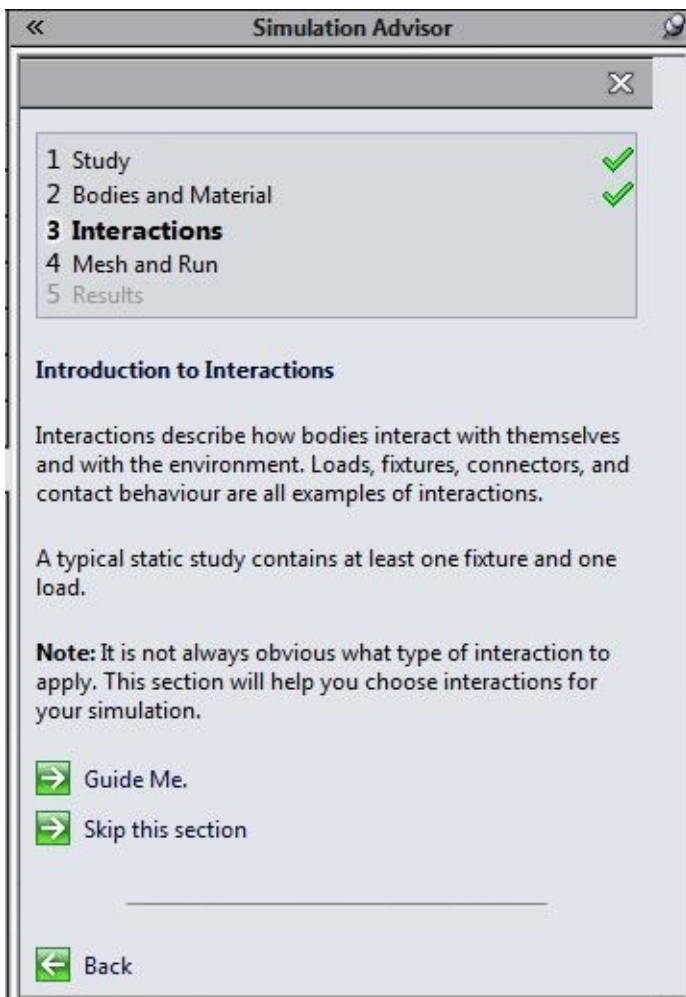

Figure-44. Simulation Advisor with Interaction page
- Click on the **Next** button from the **Simulation Advisor**. The **Interactions** page will be displayed; refer to Figure-44.